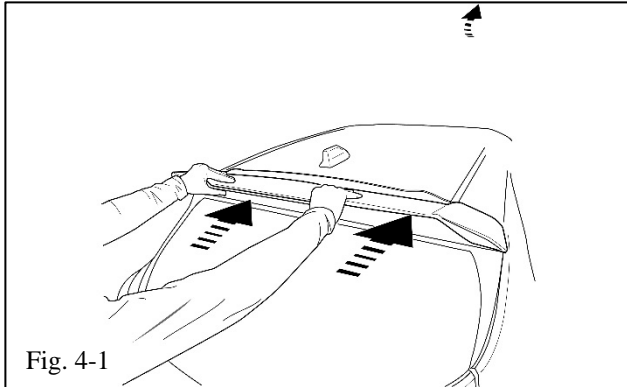

Fig. 4-1
- (a) Align the two outside clips and the three bolts in the spoiler to the holes in the decklid (Fig. 4-1).